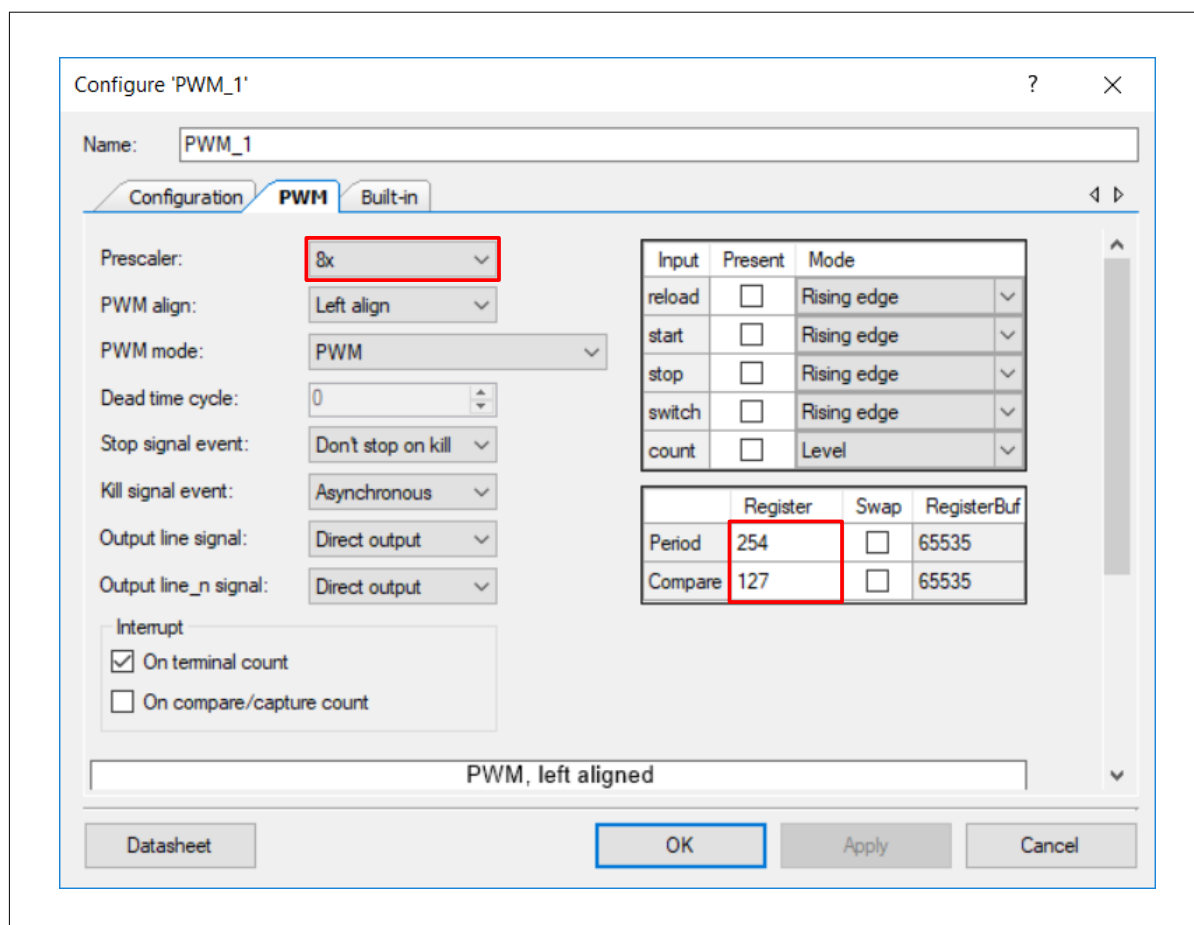

Figure 39 Configuring the PWM Component
7. Double-click the PWM Component on the schematic to configure the Component properties, as shown in Figure 39. Click the **PWM** tab, and set the **Period** value to 254 and the **Compare** value to 127 to generate a PWM signal with a 50 percent duty cycle.